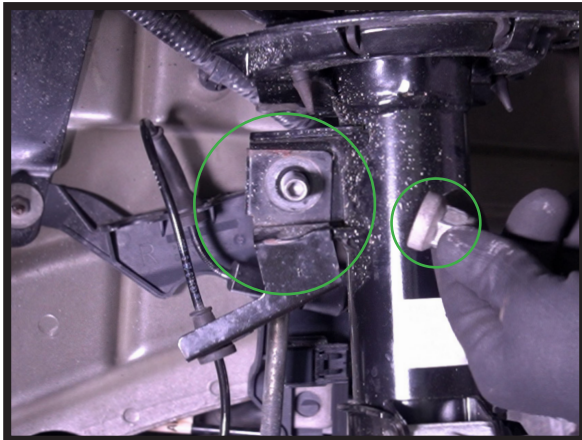

FIGURE 4
3. REMOVE SWAY BAR LINK NUT AND WIRE RETAINER BRACKET. (FIGURES 4, 5)